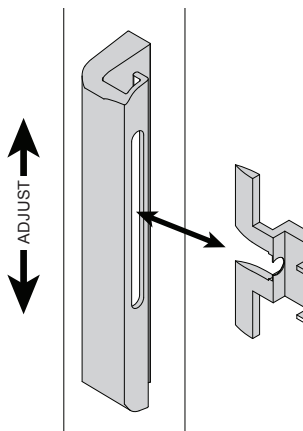

FIG. 37
3. Position lock strike so screen catch moves freely. (FIG. 37)